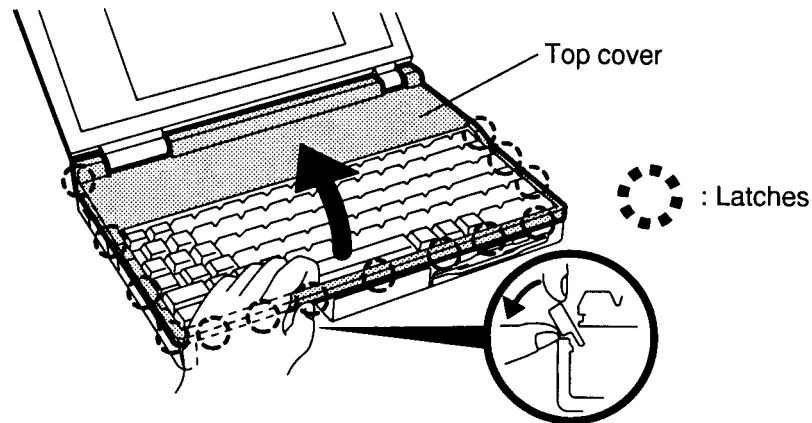

Figure 4-13 Unlatching the top cover
6. Unsnap the **14 latches** securing the **top cover** to the bottom cover. Start by releasing the three latches on the right side, then lay the computer down and, going clockwise, release the seven front latches by rotating the keyboard's front edge toward you (Figure 4-13).
7. Grasp the right side of the top cover and carefully rotate it to the left to release the four latches on the left, then lift off the **top cover** (Figure 4-13).
To install the top cover, follow the steps below and refer to Figures 4-13 back through 4-11.
2. Begin at the back and snap the cover into place, continuing along the sides and finally the front until all **14 latches** are secured (Figure 4-13).